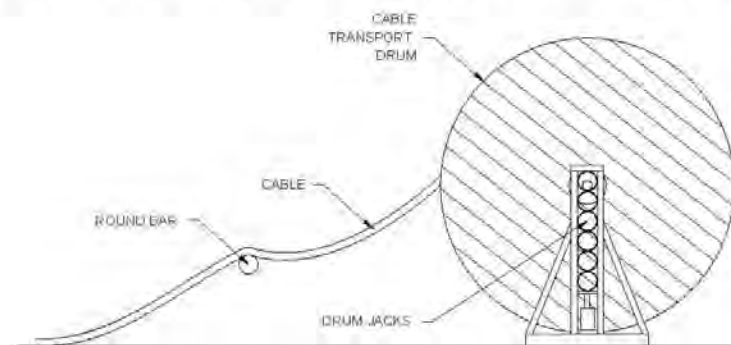
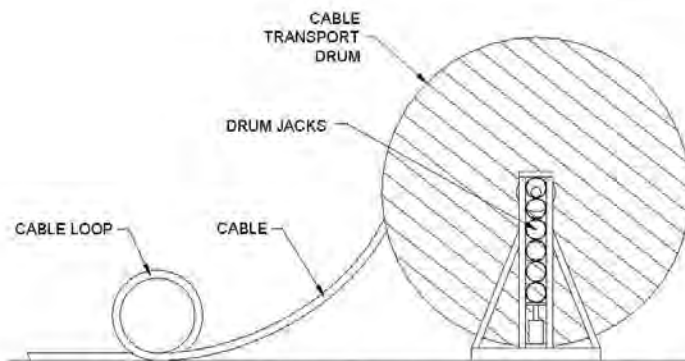

Figure 6 – Removal of Cable Twist Using Round Bar
Figure 7 – Removal of Cable Twist Using Cable Coil Method
- 5.1.5 There may be some twist evident in the cable, which is due to the manufacturing process, and this should now be removed. Leave one end of the cable fixed (eg. still attached to the transport drum) and working from this end, run the twist out of the cable by either (a) placing a suitable bar under the cable and walking towards the free end while gently moving the bar up and down (Figure 6), or (b) forming a coil of cable as near as possible to the fixed end and rolling it along to the free end (Figure 7). If there is a lot of twist in the cable, the process described above may need to be repeated several times.